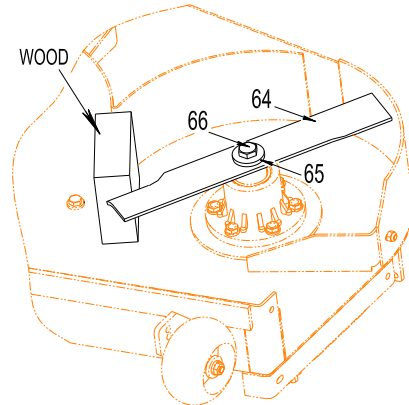

FIG 2
b) Remove Part No. 64 (blade). (Keep the removed blade in a bag for later use.) Part No. 65 and 66 are needed in installing catcher blade. (FIG 2)